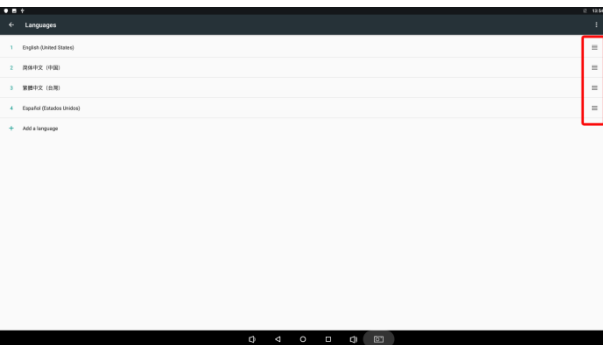

Fig. 5
4. Drag the system language you just added up to the front(Fig. 5)